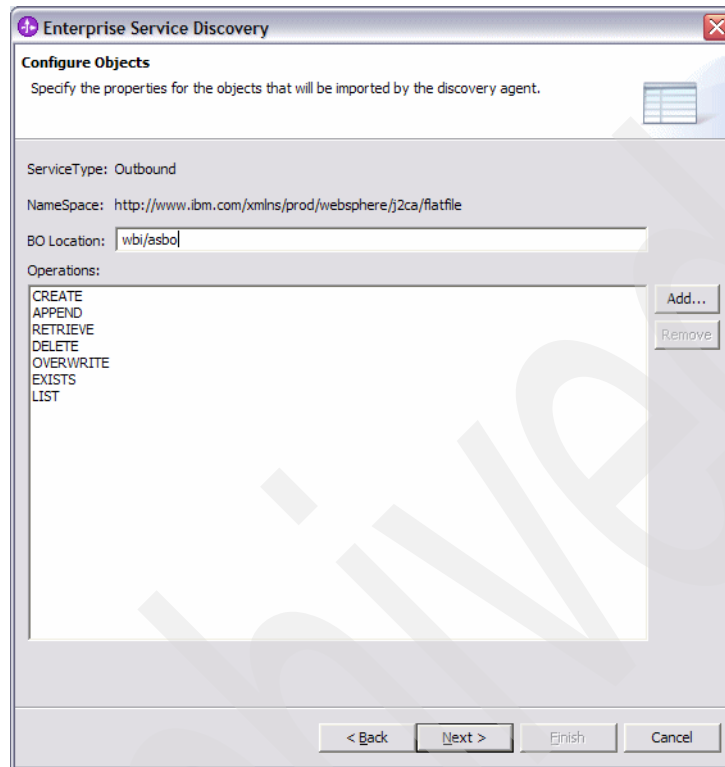

Figure 2-9 Enter BO location
7. Enter a BO location (we chose wbi/asbo). Click **Next** (Figure 2-9).